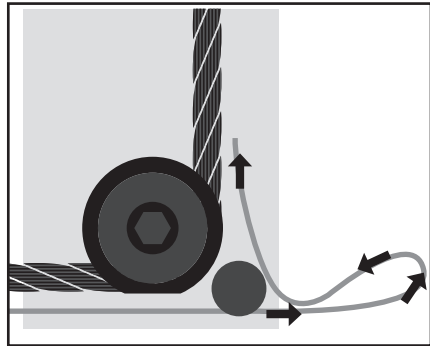

Fig. 9
3. Insert steel cable back into the hole and guide over guide roller (Fig. 9).